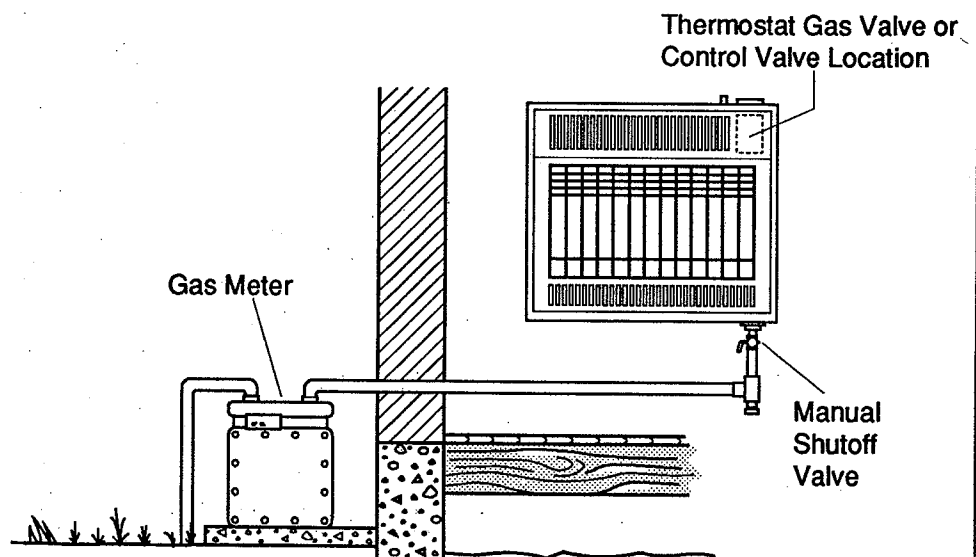

Figure 13 - Checking Gas Joints
3. Check all joints from gas meter to manual shutoff valve (see Figure 13). Apply mixture of liquid soap and water to gas joints. Bubbles forming show a leak that must be corrected.
4. Check all joints from manual shutoff valve to thermostat gas valve (models VN2000BT and VN2800BT) or control valve (model VN2000B) (see Figure 13). Apply mixture of liquid soap and water to gas joints. Bubbles forming show a leak that must be corrected.